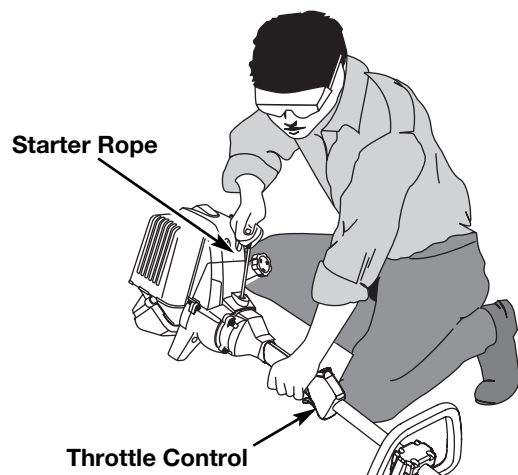

Fig. 11
WARNING: Avoid accidental starting. Make sure you are in the starting position when pulling the starter rope (Fig. 11). To avoid serious injury, the operator and unit must be in a stable position while starting.
5. With the unit in the starting position, **do not squeeze the throttle control** (Fig. 11). Pull the starter rope out a short distance, until you feel some resistance. This is usually around 2-4 inches. Then pull the rope smoothly and briskly. Repeat this 5 times. The engine should start.